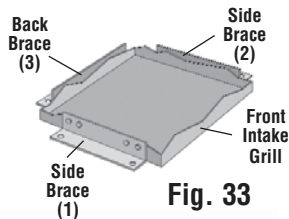

Fig. 33
IMPORTANT: There is left and right side mounting. The outlet nozzle MUST be at the edge of the doorway opening. (See Figs. 33 & 34)
The unit has three (3) braces for mounting. (See Fig. 33) Make sure the intake grill is facing away from the doorway opening, and the outlet nozzle is at the edge of the opening.